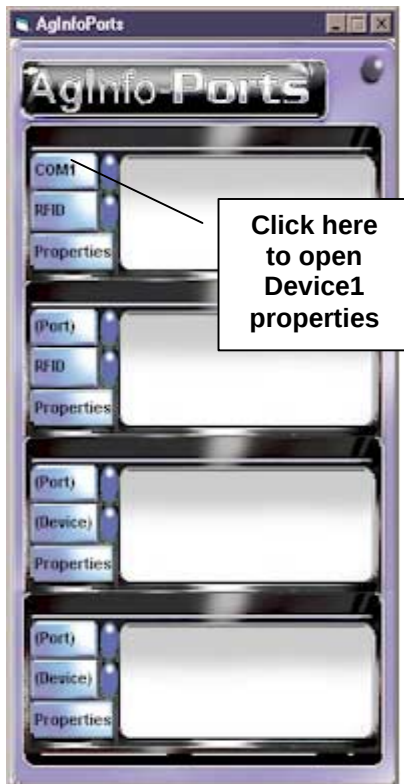

Figure 14
- Click on the “Port” button in the top display. [See figure 14]